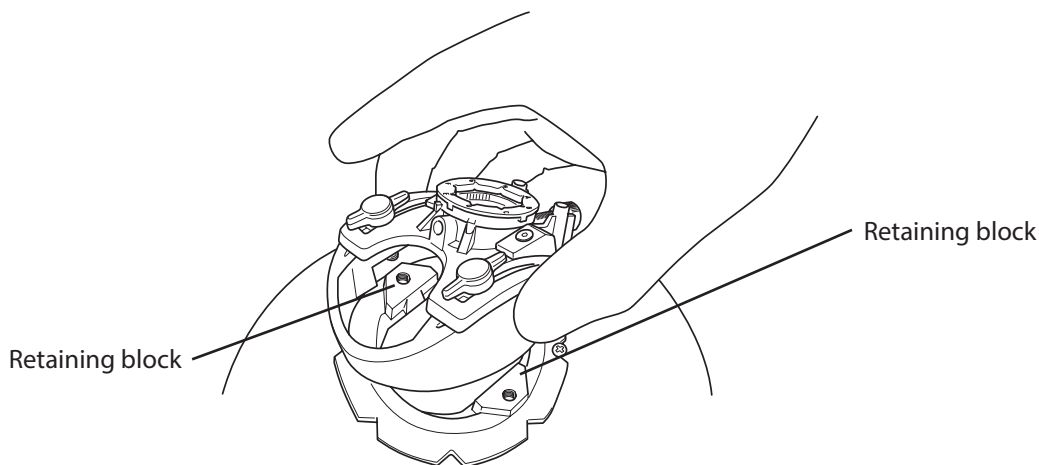

Figure 11. Position the socket assembly over the ring.
9. Attach the socket assembly by placing it over the ring and aligning it with the retaining blocks (Figure 11).